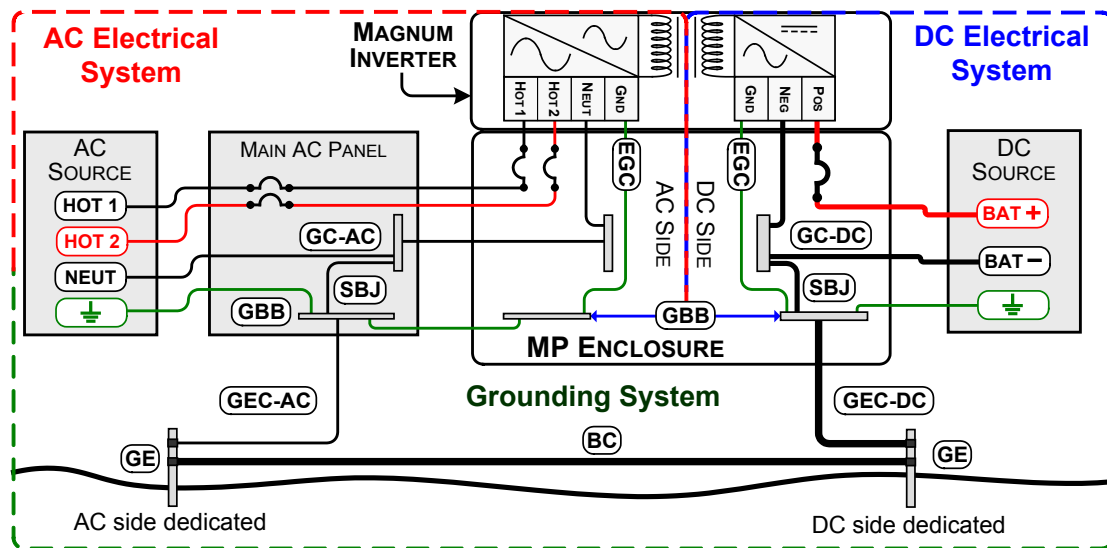

Figure 3-33, Multiple Connections to DC Ground Rod (Method 3)
3. Multiple Connections to Ground - Multiple Electrodes (Method 3): This method uses a separate grounding electrode for the DC system and the AC system (see Figure 3-33). In this method — since there are multiple connections to the DC Grounding Electrode (GEC-DC) — the size of the DC grounding electrode conductor cannot be smaller than the largest conductor in the DC system (usually the battery-to-inverter cable).